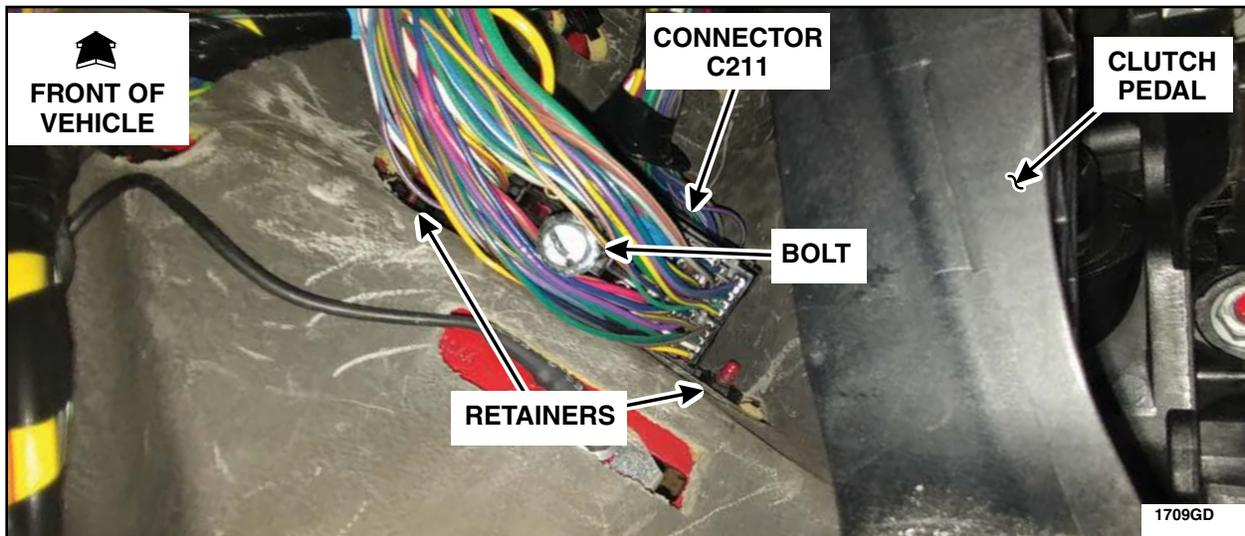

FIGURE D2
3. Loosen the bolt and disconnect connector C211. Remove the two retainers and position aside connector C211. See Figure D2.
24. Position connector C211 back onto the retaining studs and install the two retainers. See Figure D2.